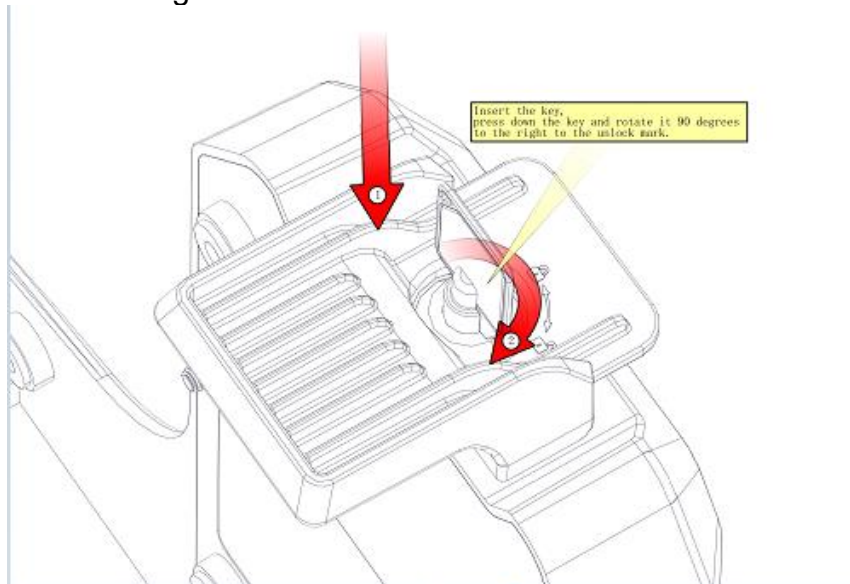

Fig. 4-1
1. Insert the key and turn it 90 degrees to the right to unlock the key to unlock the telescopic buckle as Fig 4-1 shown.